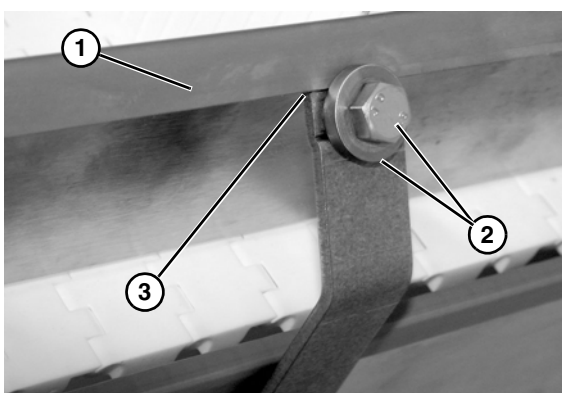

Figure 39
3. Attach guide (**Figure 39, item 1**) to the mounting brackets with hex bolts and spacers (**Figure 39, item 2**). Hand tighten only at this time.
4. Ensure that nose of bracket slips under the lip of guide (**Figure 39, item 3**).